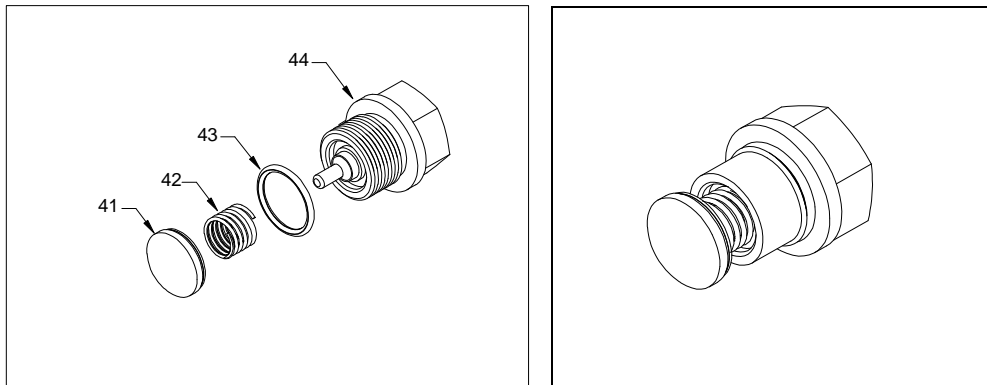

Fig. 13: Valve Assembly
Clean and inspect all valve plugs (44) prior to reassembly. Once all valve plugs (44) are clean and dry, install new valve plug o-ring (43) onto valve plug (44). Install the valve spring (42) onto the valve plug (44). Press the valve (41) onto the valve spring (42). Complete valve assembly shown in Fig. 13.
Align manifold assembly to crankcase assembly as shown in Fig. 13 and tighten the two manifold nuts (53) with a 15/16" socket wrench or combination wrench, torque to 90 ft-lbs.